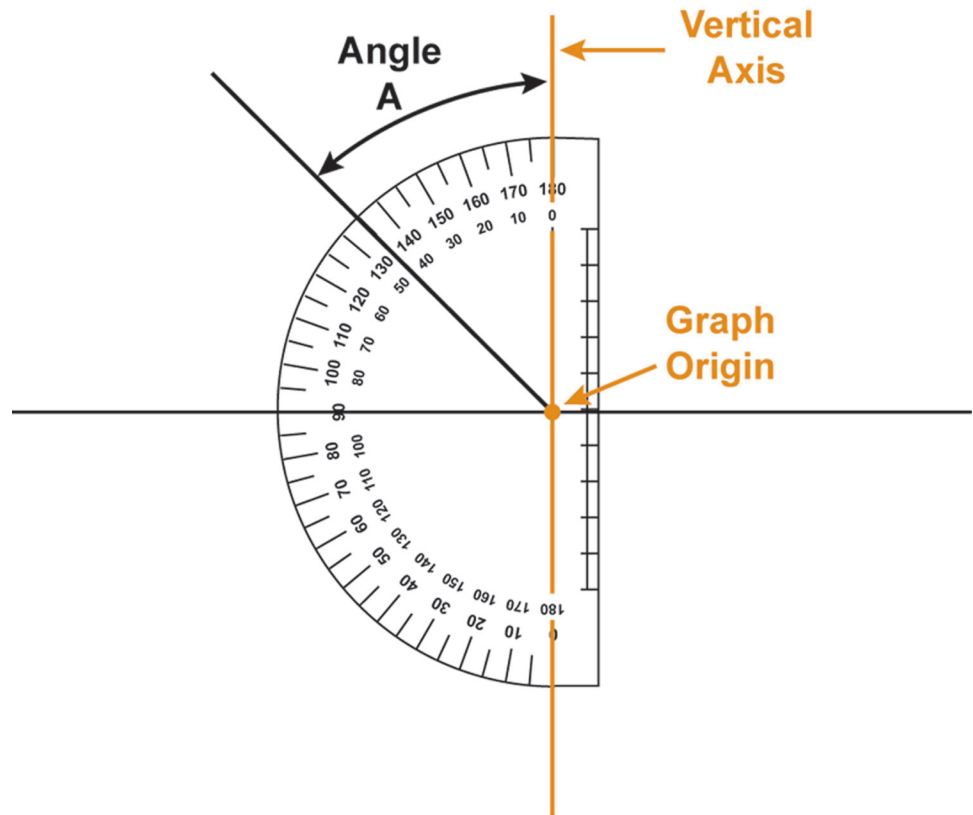

Figure 7
- 1. Place the protractor center over the graph origin under Graphing the Data, Data Graph 1. Align the protractor baseline with the vertical axis of the graph. See Figure 7.